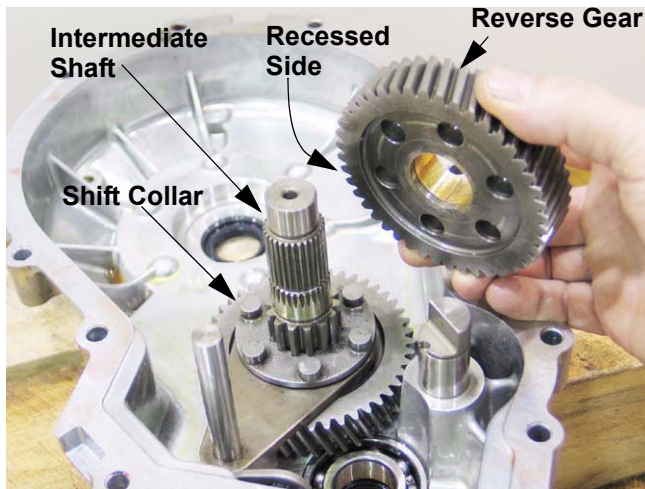

Figure 12.6
- 12.6. Lift the reverse gear off of the intermediate shaft. See Figure 12.6.